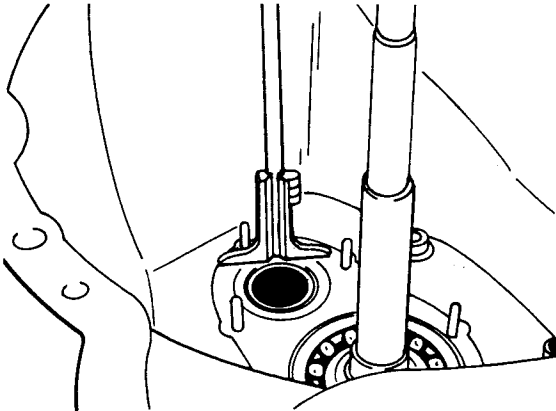

Fig H1.43
- (7) Refer to Fig H1.43. Measure the depth of the track relative to the front inner surface of the clutch housing.